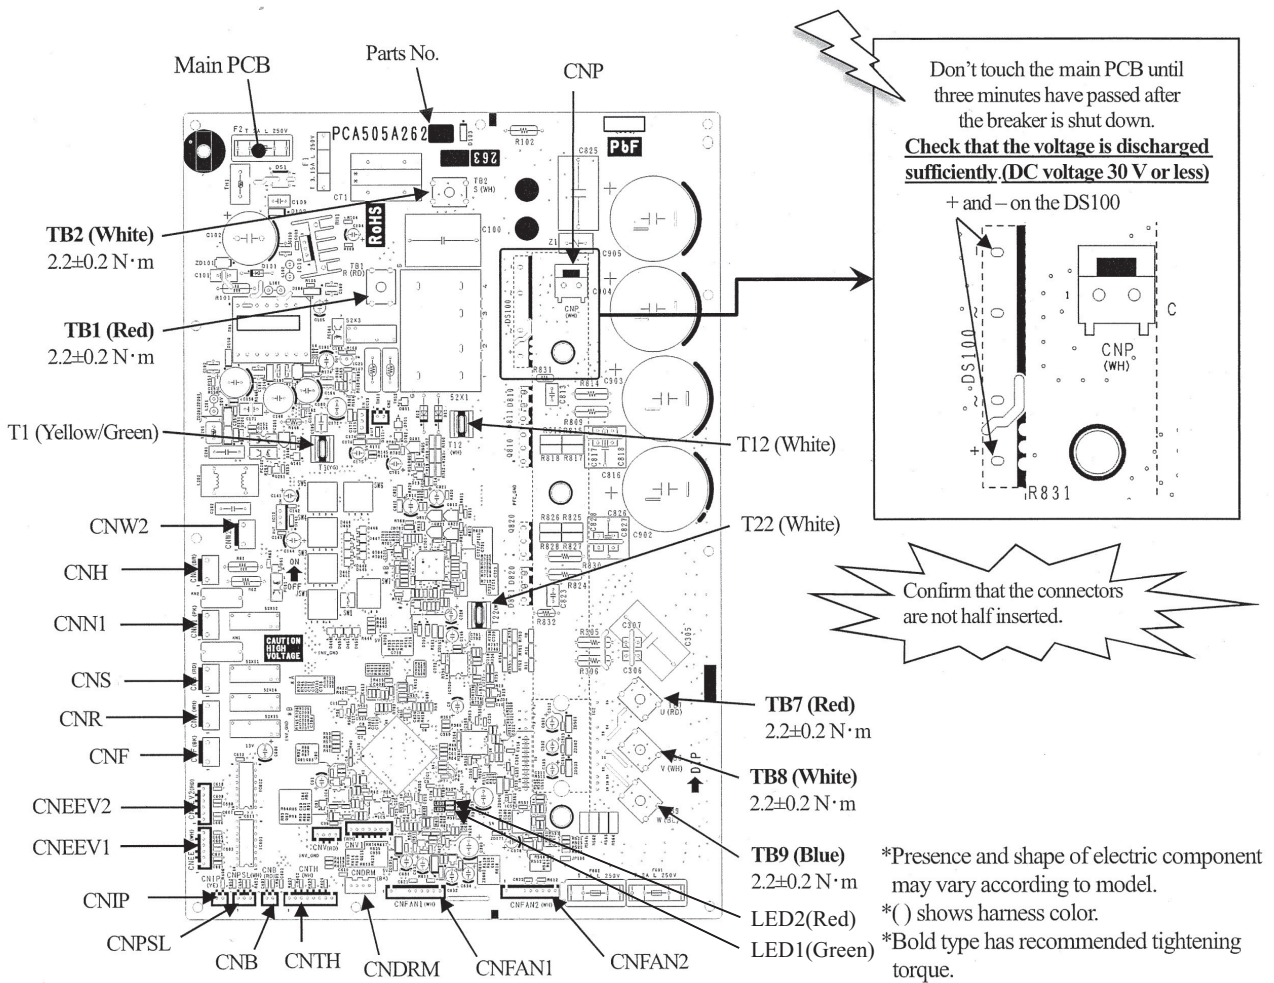

Fig.2 Parts arrangement view of main PCB and voltage measurement points
In the situation that harnesses are connected to main PCB, **be sure to measure voltage (DC)** on main PCB, and **check that the voltage is discharged sufficiently (DC voltage 30 V or less)**. (Refer to Fig.2)
- c) Disconnect the connectors, faston terminals and round terminals from the main PCB as shown in Fig.2.
- b) Reconnect the connectors, faston terminals and round terminals to the main PCB as before. (Refer to Fig.2)